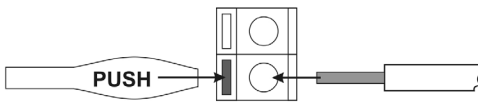
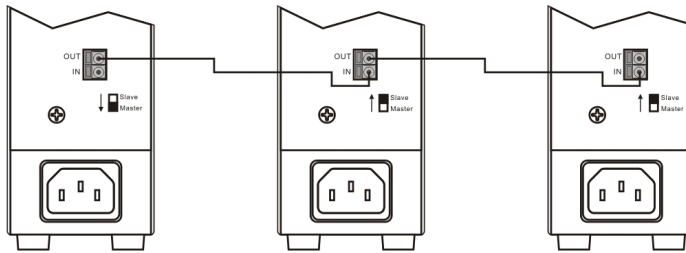

Figure 1.5-1 Back Side Connection
Figure 1.5-2 Master and Slave Connections
5. Connect the power supplies together using the Master/Slave Control Terminals on the back of the units. Note: For proper performance all connecting cables and output cables should be the same gauge and length. See Figure 1.5-1 and Figure 1.5-2.